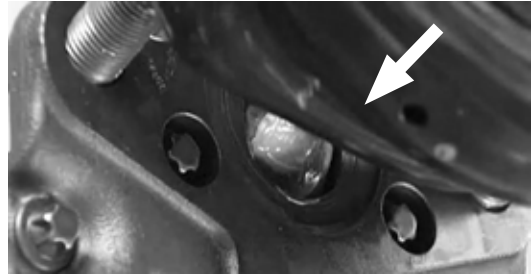

Figure 46: Installing brake chamber
6. **Place** the brake chamber onto the brake caliper (Figure 46).